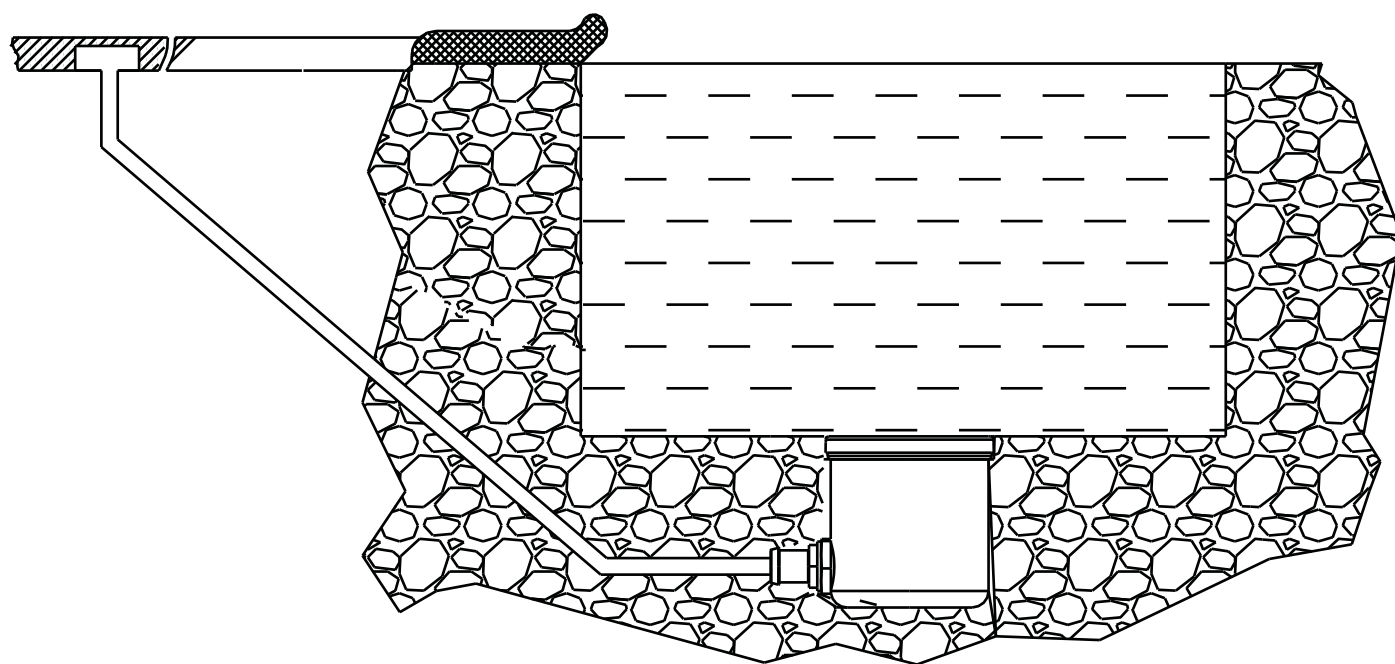

Figure 1.
- The junction box or (12 volts lights and the low voltage transformer) must be located at least 20 cm above water level, at least 10cm above ground level, and at least 120cm from the edge of the fountain, please check Figure 1)
- The light must be properly installed so that the top of the underwater light's lens is at least 45.5cm below the surface of the water in the fountain; please refer to Figure 1.
- The wet niche must be properly electrically bonded and grounded via the No.8 AWG ground connector located at the rear of the niche; please see Figure 1